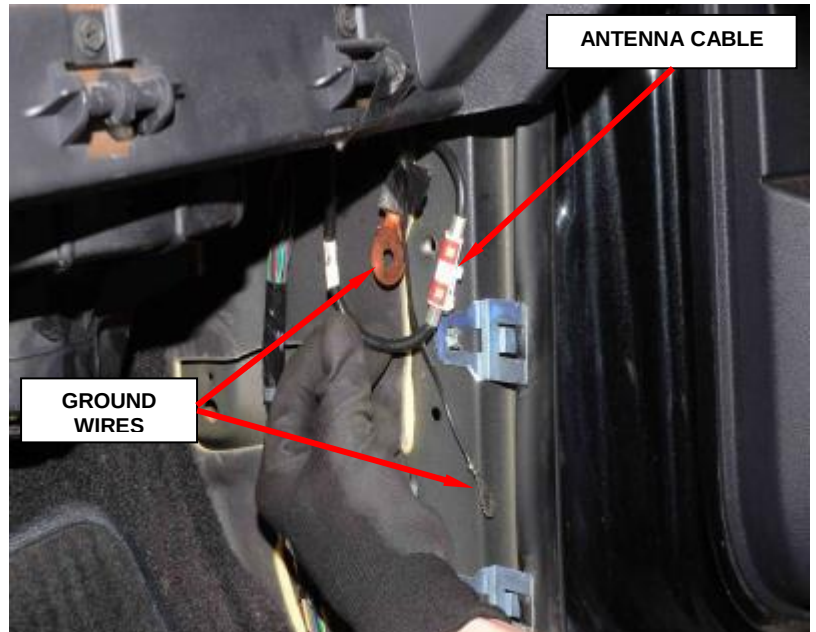
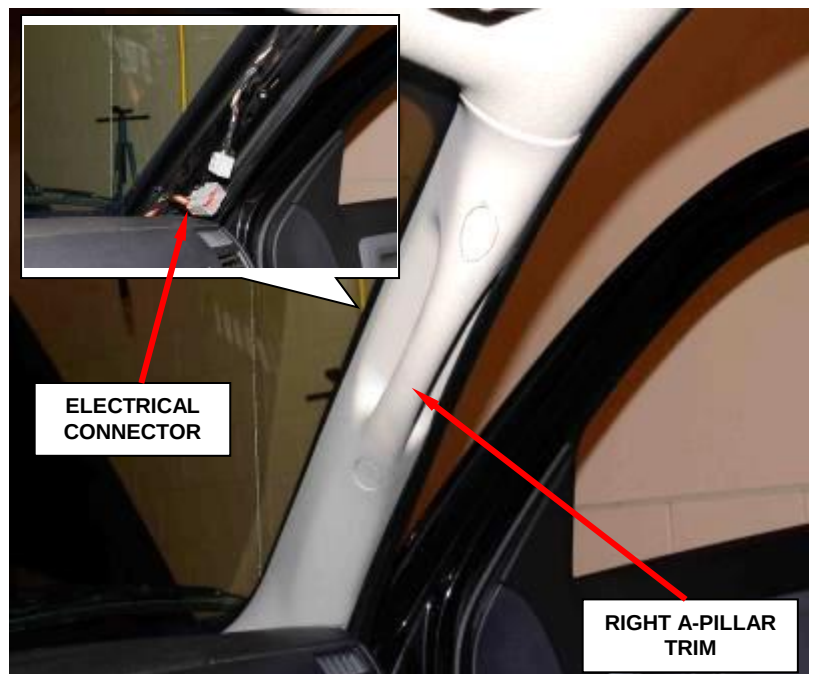

Figure 138 – Ground Bolt and Nut
Figure 139 – A-Pillar Trim (Right Side Shown)
26. Remove the bolt and nut and disconnect the grounds on the right A-pillar (Figure 138).
27. Disconnect the antenna cable (138).
28. Remove the right and left side A-pillar trim (Figure 139).
29. Disconnect the right side A-pillar electrical connector (Figure 139).